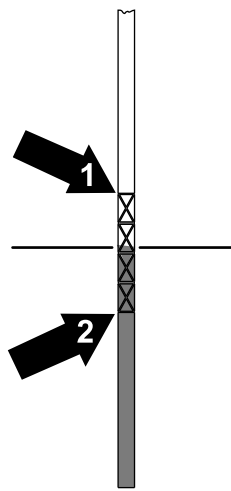

Figure 55
5. Remove the dipstick cap and check the fluid level (Figure 55).
6. If the fluid level is below the appropriate lower mark on the dipstick, add the specified hydraulic fluid into the tank. Insert the dipstick cap into the tank and repeat steps 3 through 5 until the fluid level appears between the upper and lower marks (Figure 55) on the dipstick.